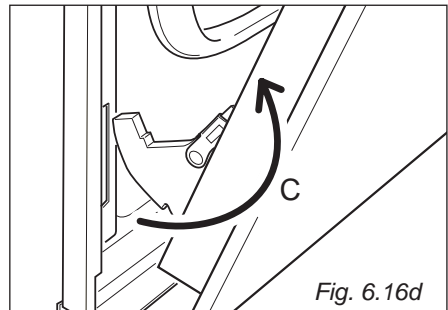

Fig. 6.16d
- Withdraw the hinge hooks from their location following arrow **C** (fig. 6.16d).